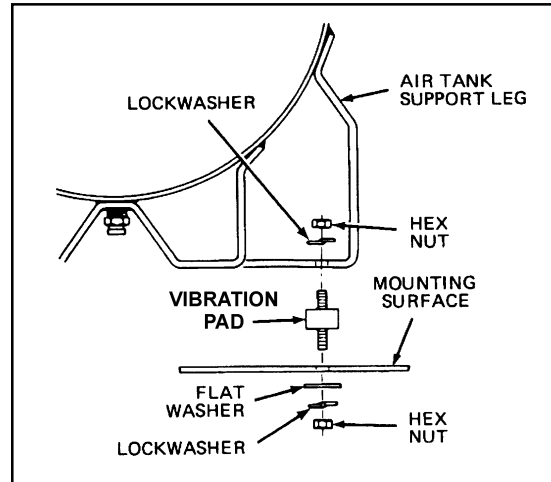

Figure 3 - Installation of Vibration Mounting Kit
2. Insert the vibration mounts in the mounting holes. Place a flat washer under the mounting surface and secure each mount with a lockwasher and nut. See Figure 3.